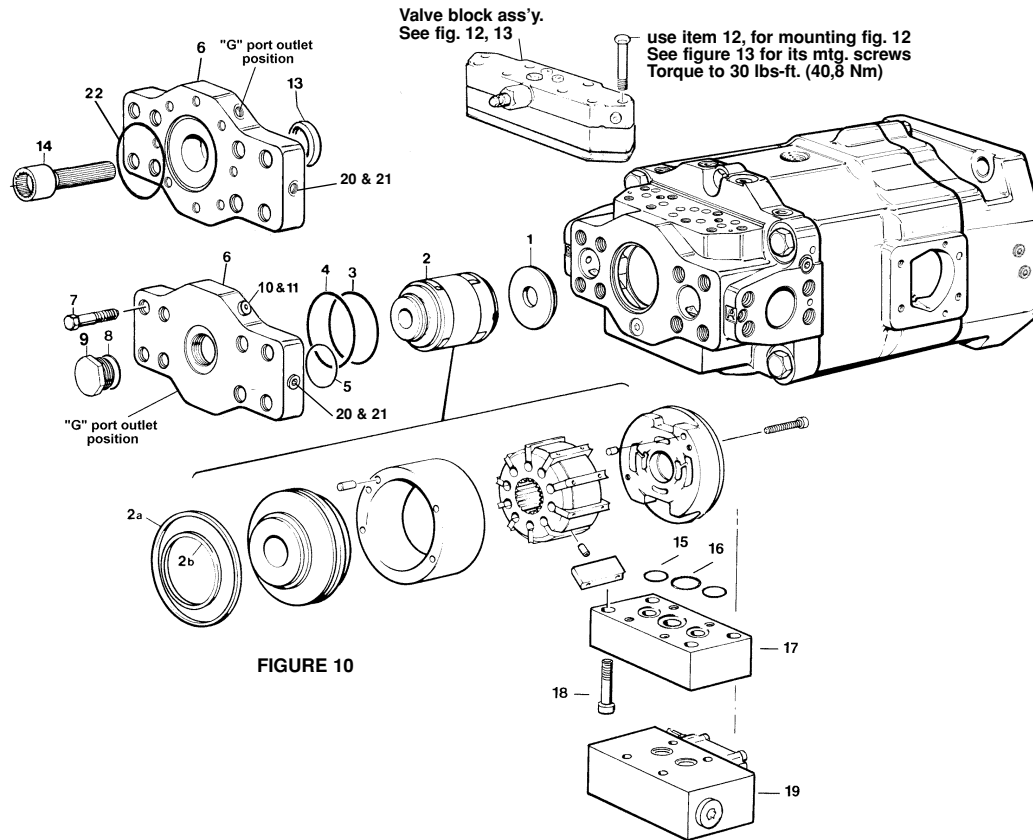

FIGURE 10
See figure 10. Slip sealing washer (1) into bore in port block, over auxiliary shaft and seat at bottom of bore.
Engage pilot of end cover into bore of port block. Refer to figure 10 for "G" port positioning. Align holes and secure with screws (7). Torque to 350 lbs-ft., 474.6 Nm.
PARTS LIST FOR FIGURE 10
PARTS LIST FOR FIGURE 10 (continued)
See figure 10. A special tool T4 refer assembly tools is required to press shaft seal (13) into SAE-B adapter. Place adapter on a clean surface with pilot facing up. Use seal tool to drive seal into adapter. Make certain that the white lip of seal numbered side is toward inside of the adapter.